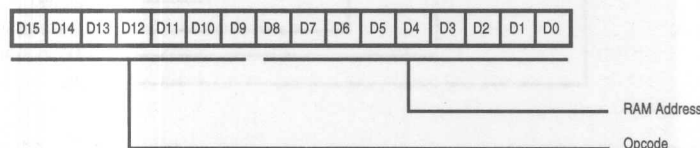

Figure 36. DSP Internal RAM Address Format
2. Register Direct (Figure 36): The second method is a direct addressing method. The address of the RAM is specified by the address field of the instruction directly. Because this addressing method consumes nine bits (0-511) of the instruction field, some instructions cannot use this mode.